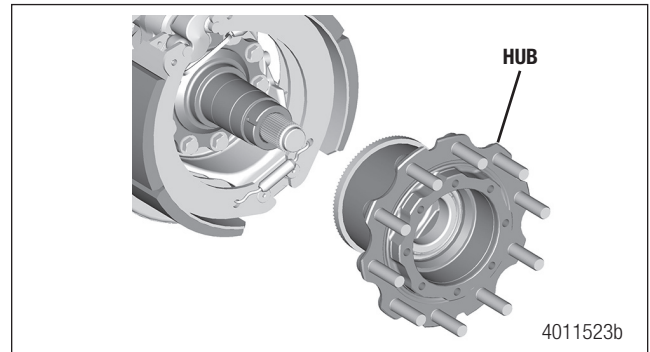

Figure 8.25
3. Install the hub assembly onto the spindle. Be careful the oil seal is not damaged during installation. Press the hub until the inner bearing is flat against the face of the spindle. Figure 8.25.